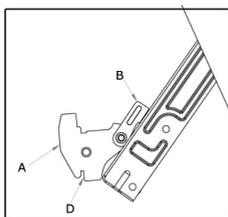

Fig. 1
- Open the door completely and lift the 2 levers “B” (see figure 1).